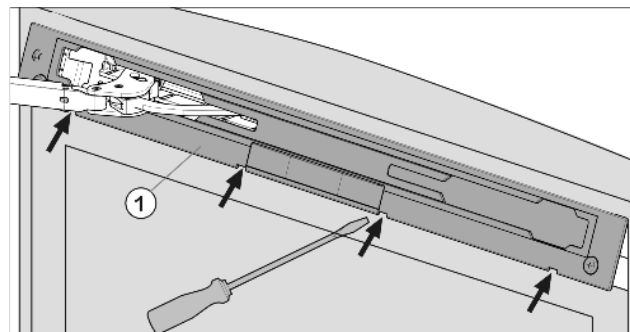

Fig. 27
- Release panel Fig. 27 (1) using slotted screwdriver and remove.